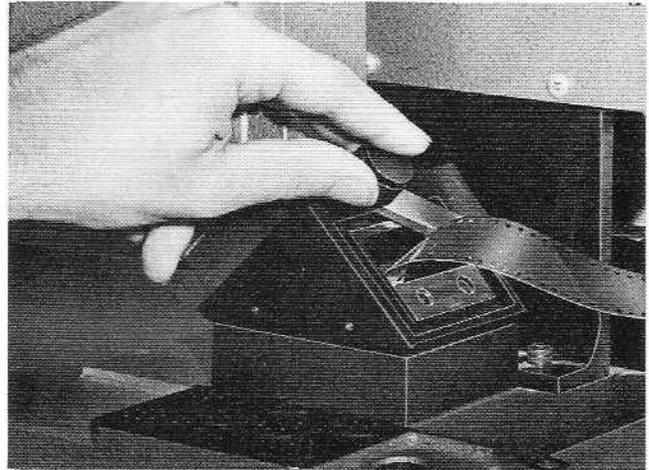

Figure 12. Cutting the Film
**5.9 CUTTING THE FILM.** A film cutter, mounted on the black triangular block, is located behind the take-up magazine (see Figure 12). To remove exposed film from the camera, turn the SHUTTER Switch to the OFF position and advance ten frames (20 for filmstrip). Slowly slide the take-up magazine out of its holder approximately 1" and swing the cutter blade forward to cut the film. As the magazine is removed, film will be pulled out of the magazine until it is cut. To avoid fogging the exposed film stock, care should be taken that the magazine is moved a minimal amount until the film is cut. Move blade back to original position.